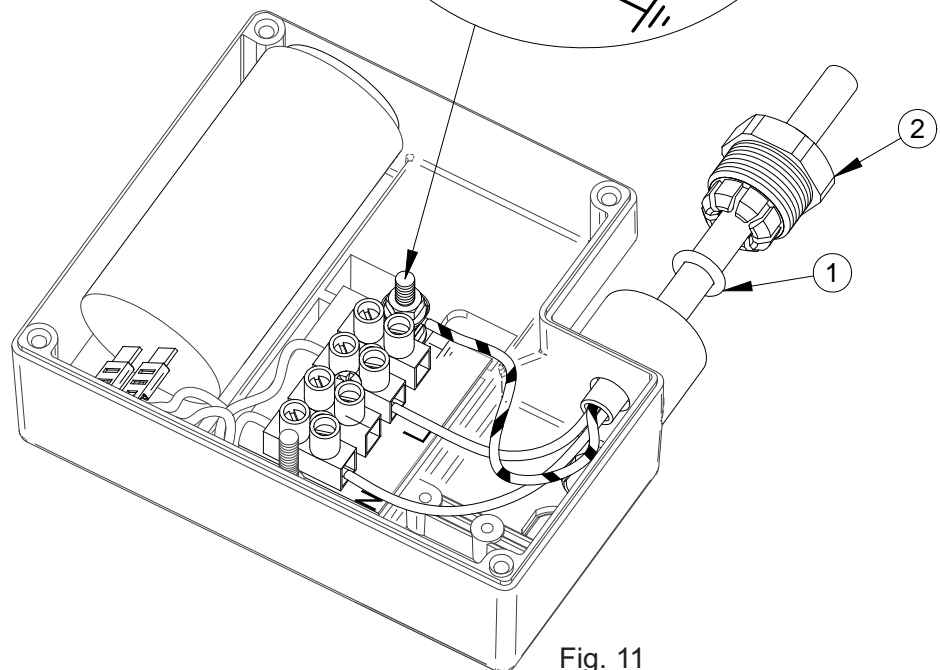

Fig. 11
The cable gland assembly Fig. 11 (items 1 & 2) provides the necessary protection against ingress of solid objects and moisture as well as providing cable retention.
3. Disassemble cable gland as shown in Fig. 11 and insert cable into position ensuring 'O'-ring (item 1) is placed over the cable before the clamping insert (item 2) is tightened.
7. Confirm cable routing is as shown in Fig. 11 and assemble and secure terminal box lid.